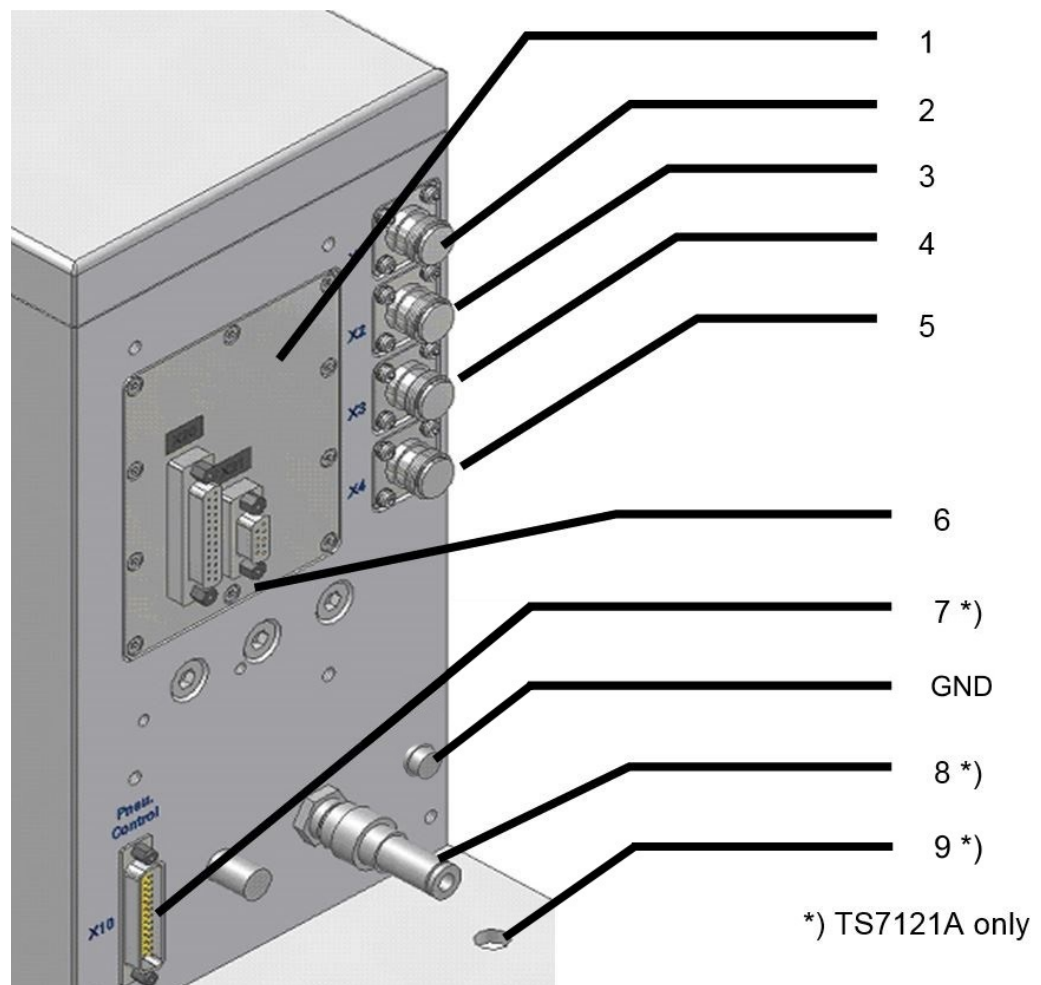

Figure 4-2: Back view of the Shielded RF Test Box
The items labeled with an asterisk (*) in Figure 4-2 are only available with the automatic version R&S TS7121A. In the manual version R&S TS7121M, these items do not exist.
The four RF N-connectors, labeled (2) to (5) in Figure 4-2, allow feeding RF signals into the Shielded RF Test Box towards internal antennas or directly towards the DUT.
To install the Shielded RF Test Box, perform the following steps (for interfaces and connections, see Figure 4-2):
On the right-hand side of the R&S TS7121A (automatic version), there are two control screws for adjusting the door speed (see Figure 4-2). These screws limit the pressure and hence control the flow rate of the compressed air.